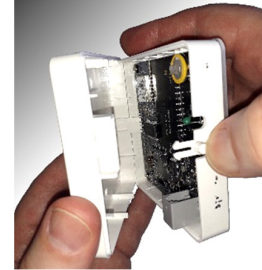

Fig 12
Step 1 Press release button on side of Controller case and pull the back case away (see Fig 12).